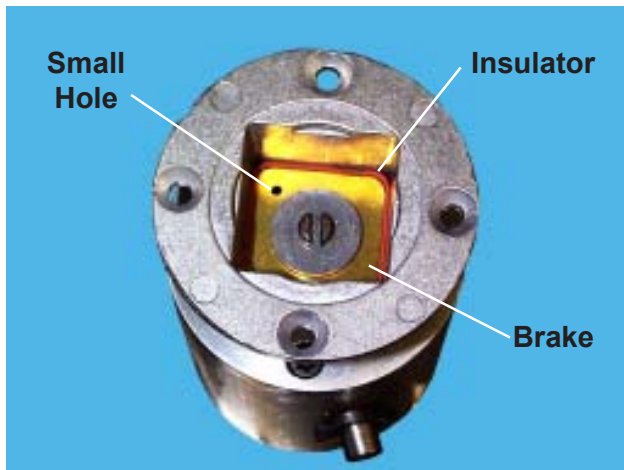

Figure 46. Brake in the Gearbox
5. Place the hook on your paper-clip tool into the small hole in the brake, or under one of the corners, and pull the brake out of the gearbox (Figure 46). Take the red rubber insulator out too.